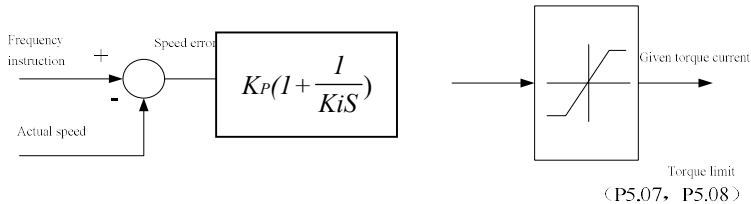

Fig. 6-14 Simplified block diagram of ASR
a.Speed regulator (ASR)'s structure is shown in Fig.6-14, where K_p is proportional gain P, and K_i is integration time I.